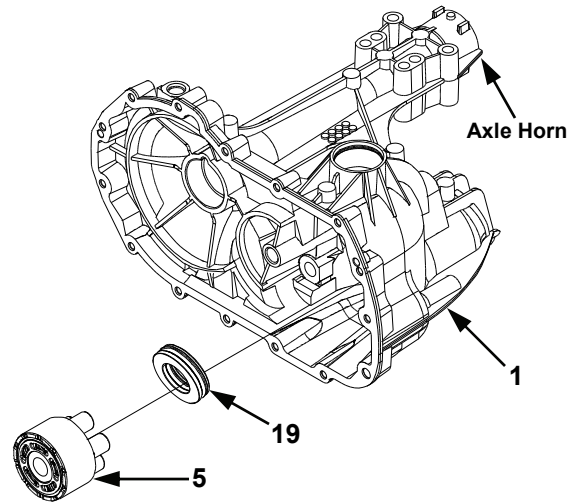

Figure 22
20. **(See Fig. 22)** Remove the motor cylinder block assembly (5) from the housing (1).
21. Disassemble the motor cylinder block assembly (5). Check each piston for proper operation by pressing the pistons in and releasing them in the block bore. Disassemble the motor cylinder block. Check for piston/block wear in the cylinder bore. Inspect the pistons, piston springs and piston
1. **(See Fig. 22)** Turn the housing (1) so the axle horn is pointing down. This will assist in the installation of the thrust bearing assembly (19) keeping it in the bearing cavity during installation of the center section assembly.
2. Insert the thrust bearing (19) in the housing (1). NOTE: Place the thin race of the bearing towards the housing bearing cavity. The thick race must face the pistons.